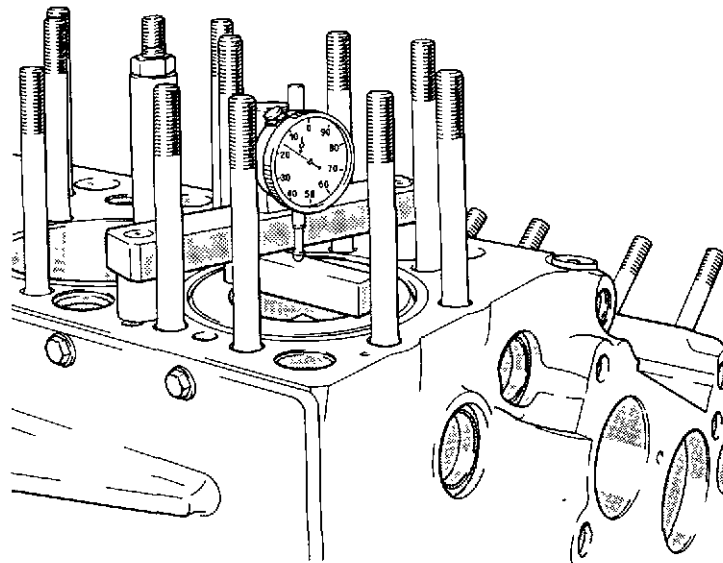

Fig. 12 Checking piston height
- 27 Turn the crankshaft until one of the pistons is almost at the top of its cylinder and transfer the setting bar to the piston top landing. Rest the tool base on a convenient flat surface of the cylinder block flame face, as shown in figure 12.